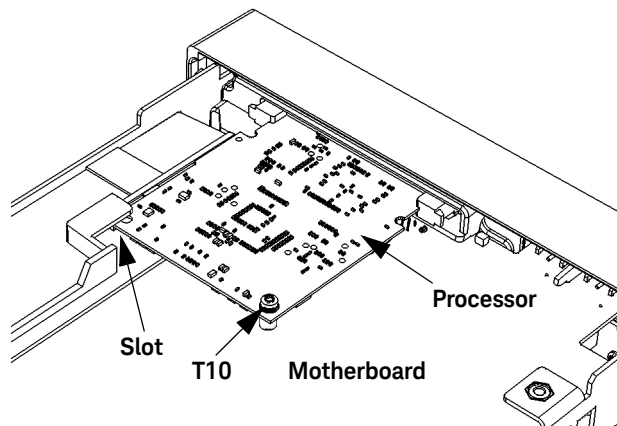

Figure 3-6 Processor PC board
- 2 Turn the chassis upside down. On the bottom of the motherboard, remove the T10 TORX screw that secures the smaller processor printed circuit board to the motherboard (see Figure 3-6).
- 7 Turn the chassis upside down. Remove the smaller processor board from the motherboard as described previously (see Figure 3-6).